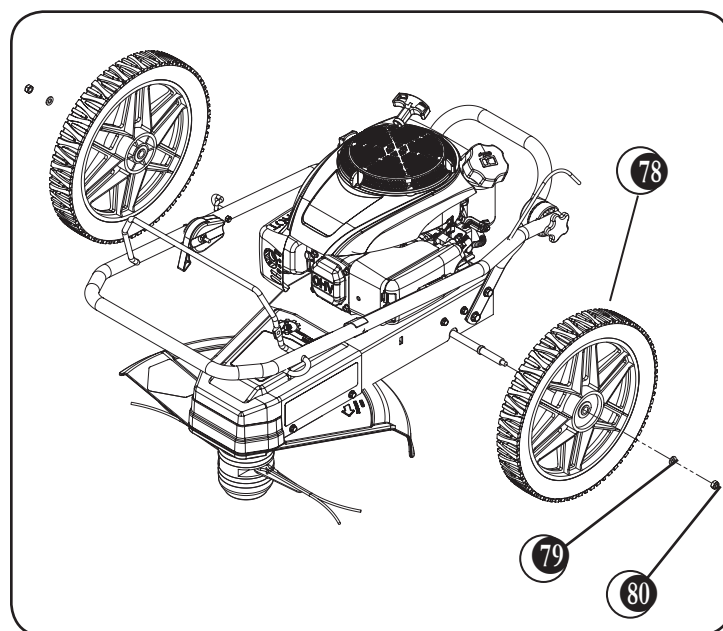

Figure 2
2. Attach wheels to the trimmer axle using nuts and washers (see figure 2).